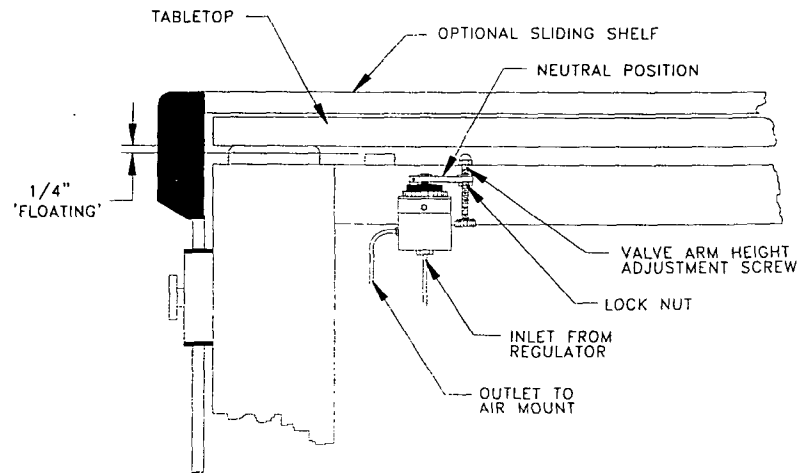

Fig. 5 The VIBRA-LEVEL Valve Adjustment.
8. When the Tabletop is completely "floating," adjust each Valve Adjustment Screw so that the Tabletop is floating approximately 1/4 of an inch (as shown Fig. 5). The Tabletop should be level at this point since leveling was done prior to this by raising and lowering of the Mechanical leveling Feet.